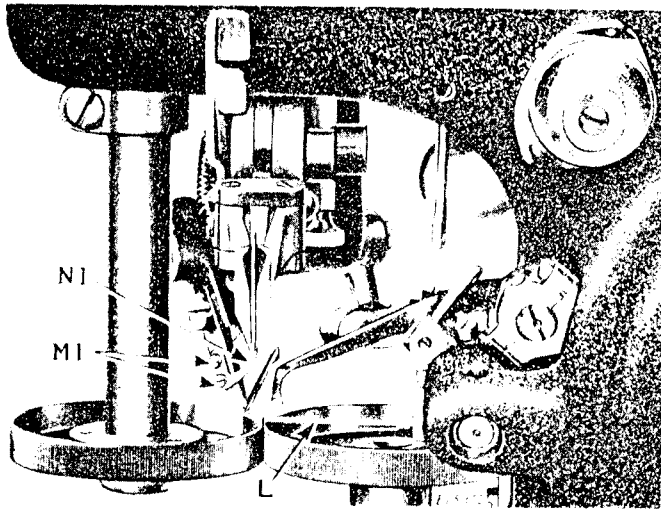
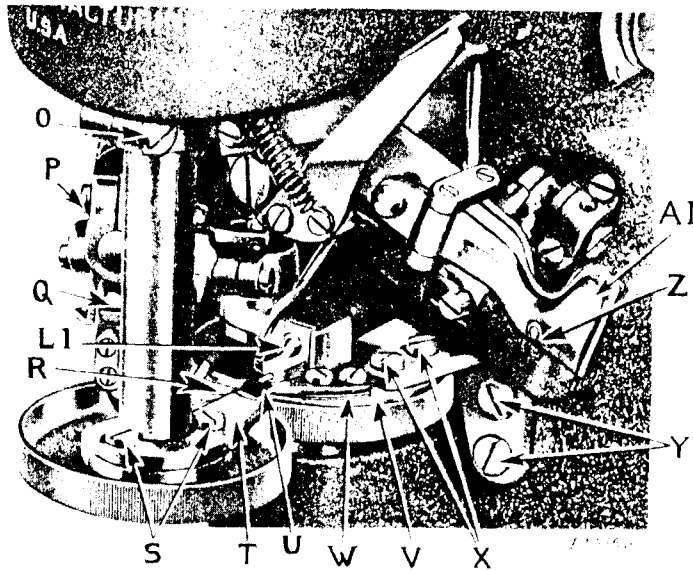

Fig. 9. Correct Setting of Needle Bar
Fig. 11.
Remove the needle, take out the two screws (Y, Fig. 11) and remove the fabric guide assembly, remove the two screws (S) and take off the needle guide. Now insert the gauge needle (L, Fig. 9) into the needle clamp and push it in as far as it will go. When the needle bar is at its extreme backward position, the front end of the gauge needle should be flush with the outside edge of the rear feed cup as shown in Fig. 9.
The amount of bight of the stitch is determined by the height above the needle of the uncurler (A1, Fig. 11) and the chaining finger (U). The chaining finger may be raised or lowered by
The needle may be raised or lowered after loosening the screw (L1, Fig. 11). It should ordinarily be set about .003 inch above the feed cups (the thickness of a sheet of note paper).
When the needle bar is all the way forward, the point of the looper (at R, Fig. 11) should be about 1/16 inch from the needle. To set the looper, loosen the clamping screw (P, Fig. 11) and move it to the correct position. The looper may be raised or lowered so that it barely clears the needle, after loosening the screw (Q, Fig. 11). The looper needle guard (N1, Fig. 9) prevents the needle from being deflected into the path of the looper. It should be set, after loosening screws (M1, Fig. 9), so that it just touches but does not deflect the needle when the looper is in the position shown in Fig. 11.
The rear feeding cup should rest against the frame casting and should have no end play in its shaft. The top of the front cup should be at the same height as the top of the rear one (loosen bushing clamp screw O, Fig.11 to adjust). The fabric guide (V, Fig.11) should set very close to the top of the feeding cup (loosen screws Y) but neither this guide nor the needle guide (T) should project beyond the bottom of the teeth of their respective feeding cup and both should be aligned with the needle (screws X and S). The top edge of the front feed cup should rest against the recessed face of the needle guide so that there is no play nor undue friction between the two. When replacing the needle guide with a new one, loosen the sprocket screws and clamping screw (O, Fig.11) and set the front feed cup in proper relation to the needle guide and rear feed cup. See Page 13 for setting of chaining finger.